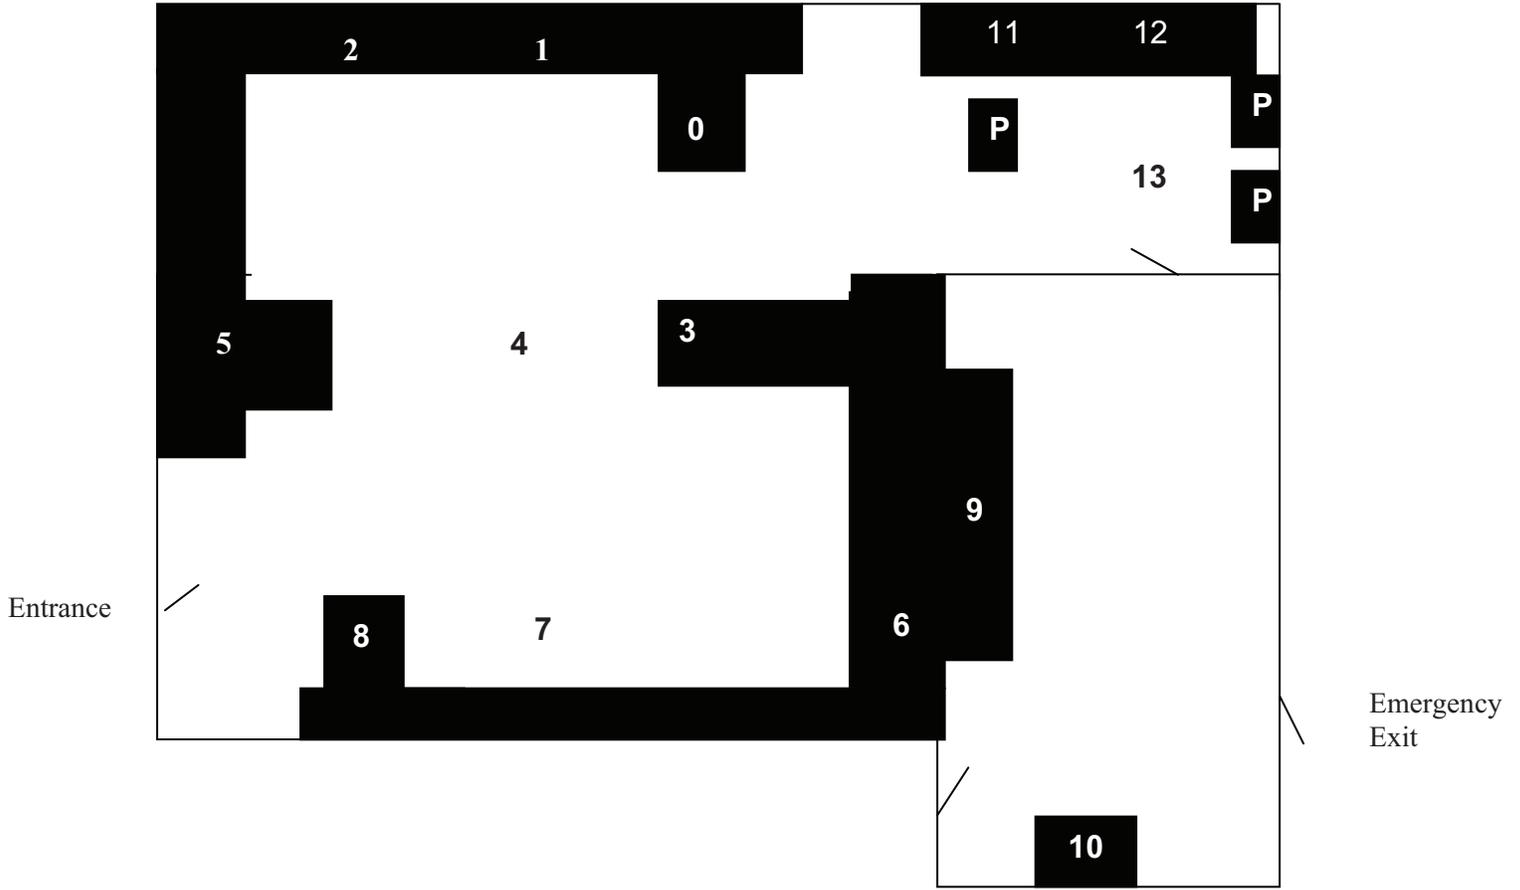

Figure 4: Diagram of Biomanufacturing and Pre Suites
9.4. Figure 4: Diagram of Biomanufacturing and Prep Suites